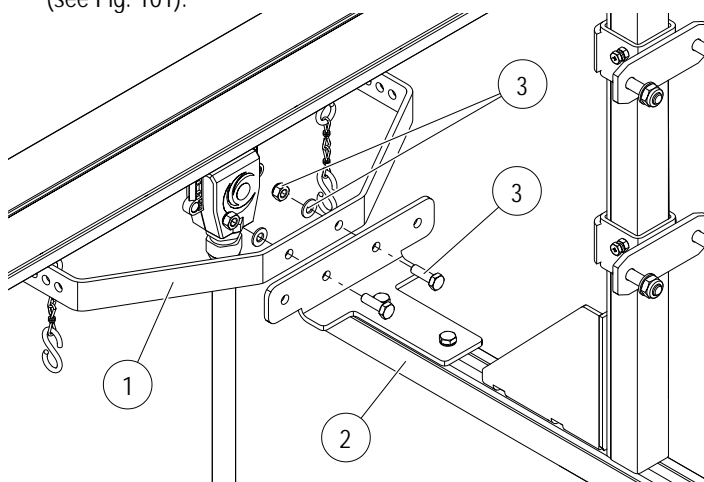

Fig. 101: Install towing device (Pos. 1) on console (Pos. 2)
- Install towing device (Pos. 1) on the console (Pos. 2) Attach fastening elements (Pos. 3) with a screwdriver (27.3 Nm) (see Fig. 101).